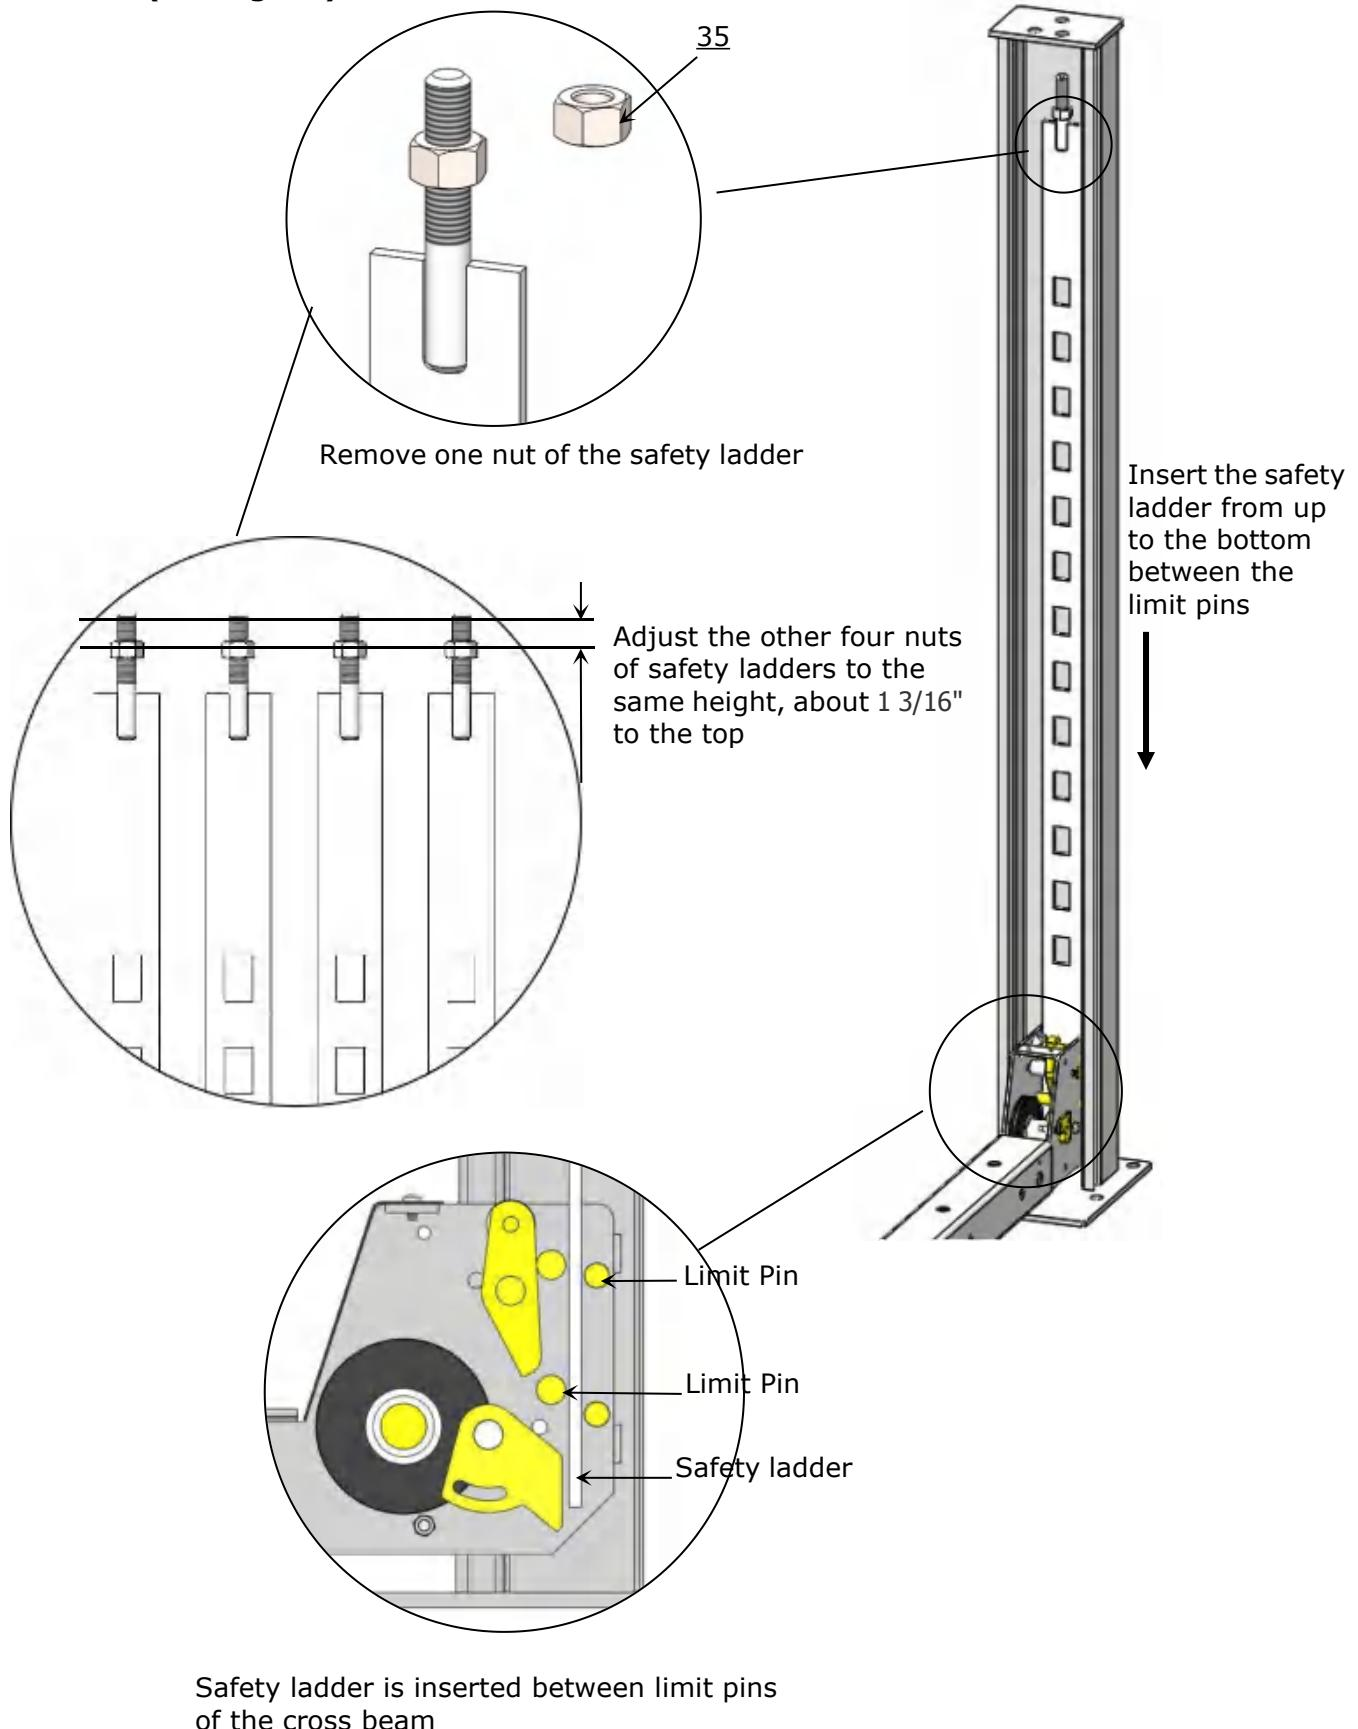

Fig.17
1. Take off the cross beam protective cover and remove one nut of the safety ladder, adjust the other nuts of four safety ladders to be at the same position. Then install the safety ladders (See Fig. 17).